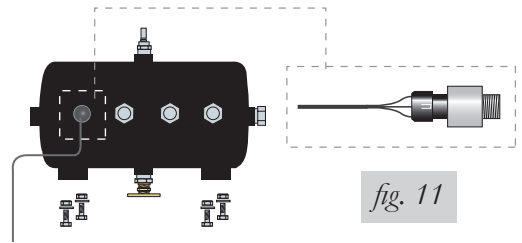

fig. 11
3. Connect the transducer with the three black wires to the open port in the front of the air tank as shown in Fig. 11.